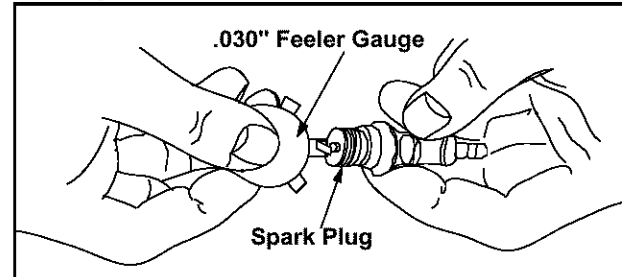

Figure 10
- Clean the spark plug and reset the gap to .030" at least once a season or every 50 hours of operation. See Figure 10. Spark plug replacement is recommended at the start of each season. Refer to engine parts list for correct spark plug type.